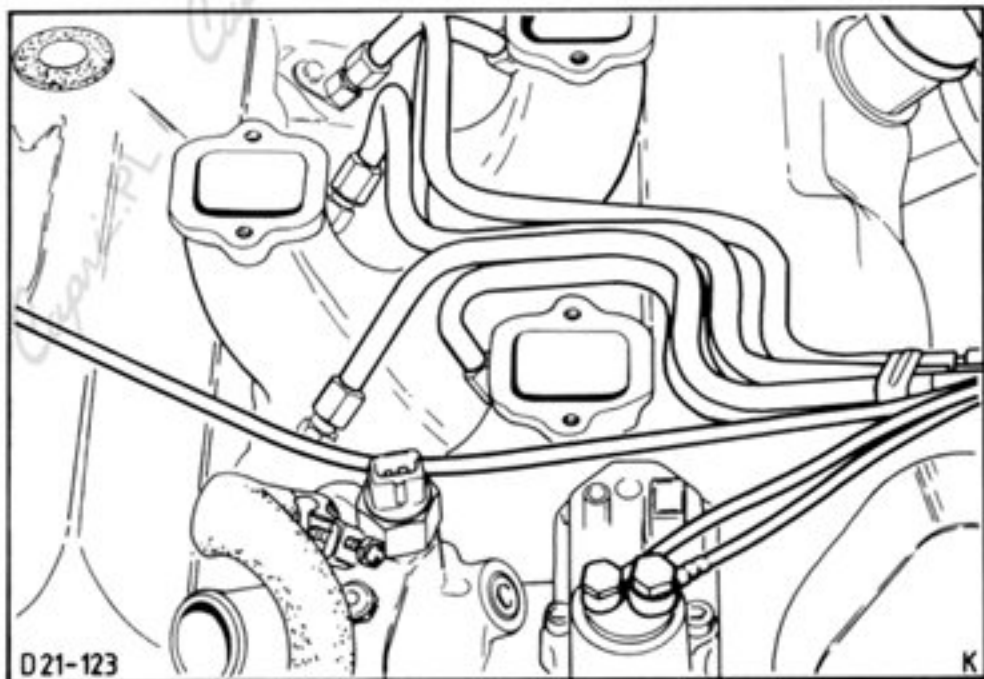

Fig.86. Disconnect fuel lines.
10. Remove fuel lines from injection nozzles and from warm-up regulator and set aside, Fig.86. Remove injection nozzles.